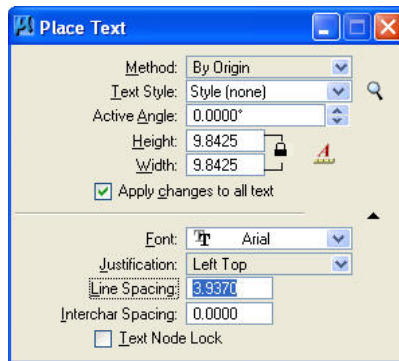

Figure P4-4 Enter the text parameters shown here
STEP 3: Set the values in the Text tool settings as shown in Figure P4-4.